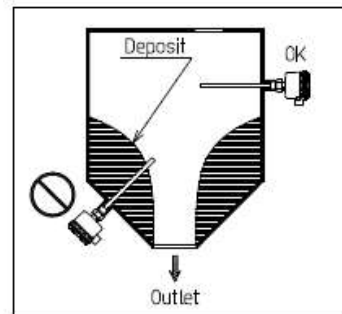

Fig. 5-4
(3) Avoid areas susceptible to deposit\* to prevent faulty operation. (Fig. 5-4)